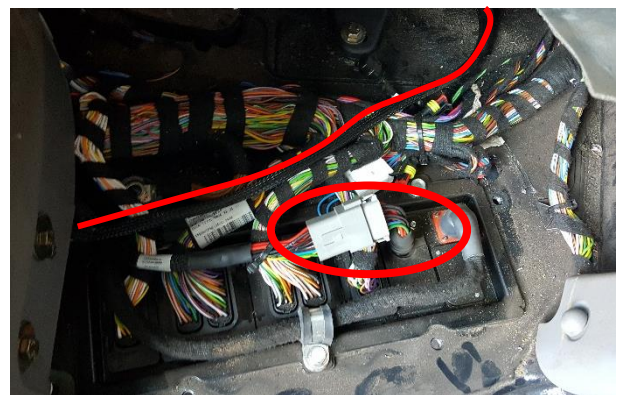

Figure 5 Location to enter the cabin (red circle).
2. Extension harness: extends the power harness to the In-Cab harness. This harness is wrapped in a hard casing. This harness goes inside the cabin. A good place to go inside the cabin is at the right side nearby the right door. Remove the floor mat and the protection cover (Figure 4) and find a place to enter the cabin (red circle in Figure 5).
3. In-Cab harness (DynamIQ ISO): this harness comes from the extension harness and goes to the terminal harness, wrapped in a braided sleeve casing. A branch is made to the DynamIQ ISO. If the DynamIQ ISO is mounted on the left front side of the cabin (Figure 20), an example of the route to the DynamIQ ISO is shown as the red curved line in Figure 5.